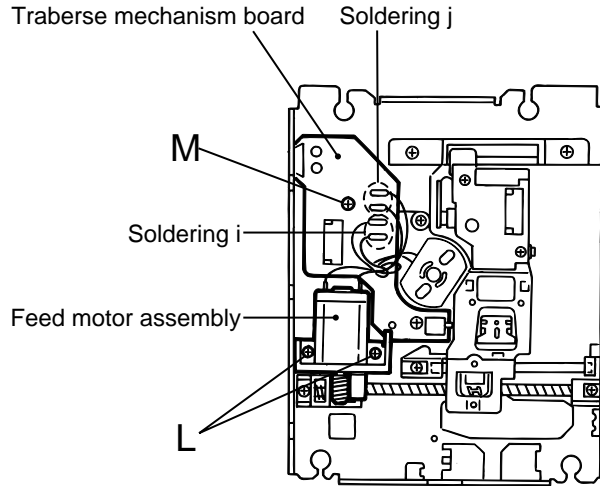

Fig.19-1
(See Fig.19-1, 19-2)**
■Removing the traverse mechanism board (See Fig.19-1)